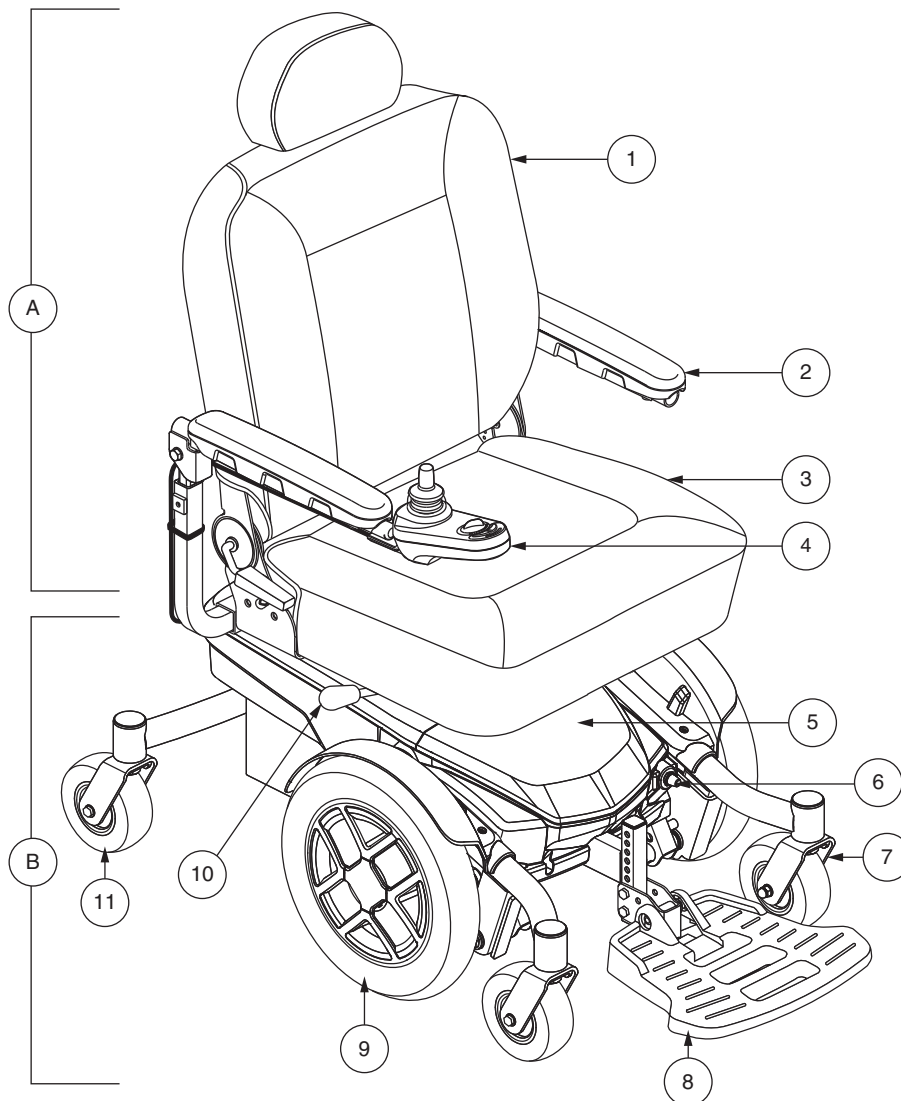

Figure 1. The Jazzy Select Series Power Chair (Jazzy Select 6 Shown)
The Jazzy Select® Series Power Chair has two main assemblies: the seat assembly (A) and the power base assembly (B). See figure 1. Typically, the seat assembly includes the armrests, seatback, and seat base. The power base assembly includes two motor/brake assemblies, two drive wheels, two batteries, and wiring harnesses. The Select power base is equipped with two rear caster wheels and two front anti-tip wheels, while the Select 6 and Select 6 with Power Seat is also equipped with four caster wheels. See figures 1, 2, and 3.